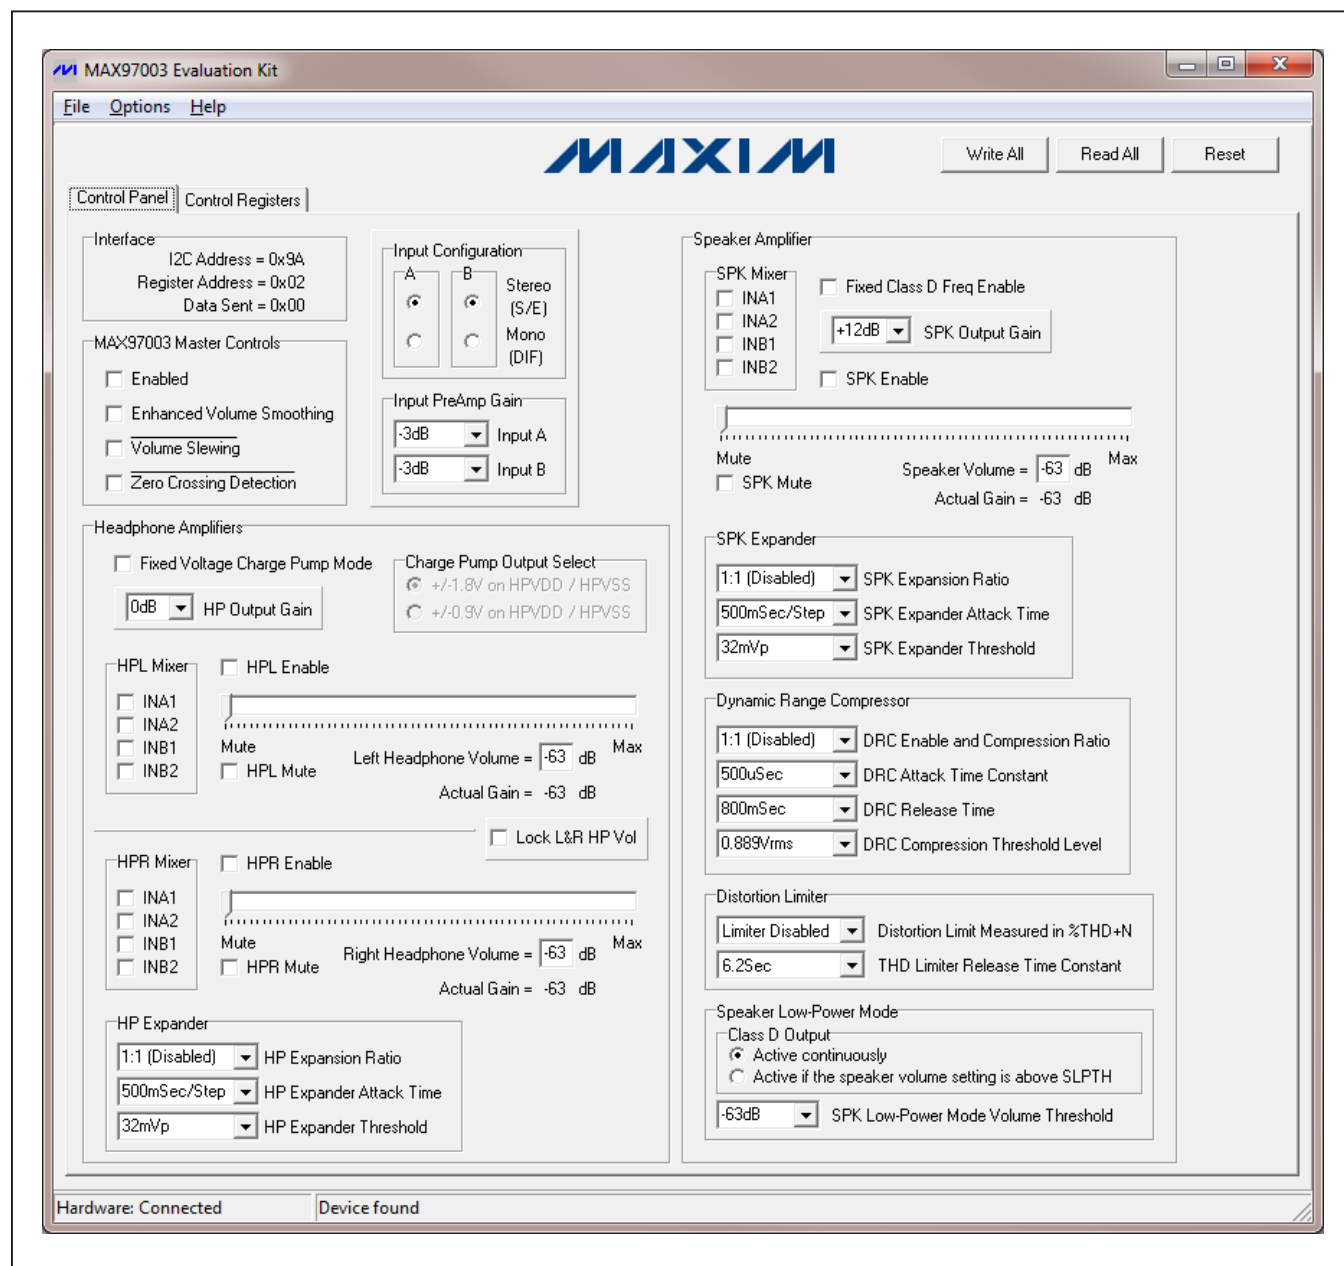

Figure 2. MAX97003 EV Kit Software Main Window (Control Panel Tab)
- 11) Start the EV kit software by opening its icon in the **Start | Programs | Maxim EVKIT Software** menu. The EV kit software main window appears, as shown in Figure 2.
The MAX97003 EV kit software GUI provides a convenient way to test the features of the MAX97003. Figure 2 displays the EV kit software's Control Panel tab sheet, while Figure 3 displays the Control Registers tab sheet. Actions on either of these two tabs generate I²C commands to update the device's internal memory registers.